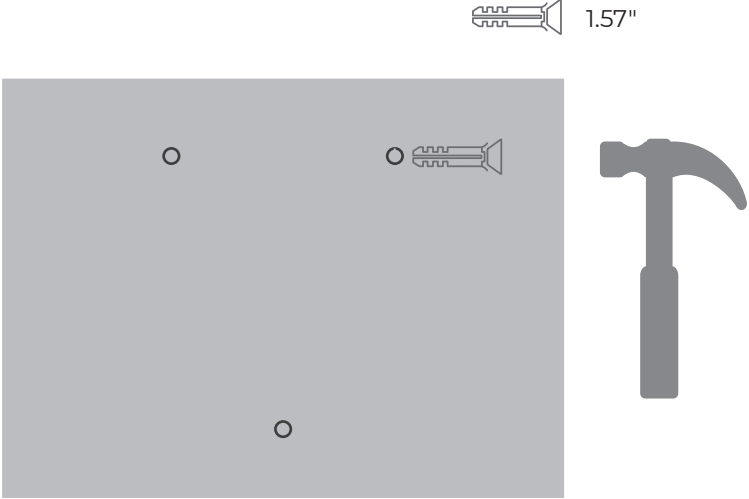

Fig. 4-6
4. Hammer the plastic expansion anchors into the holes. (See Fig. 4-6)